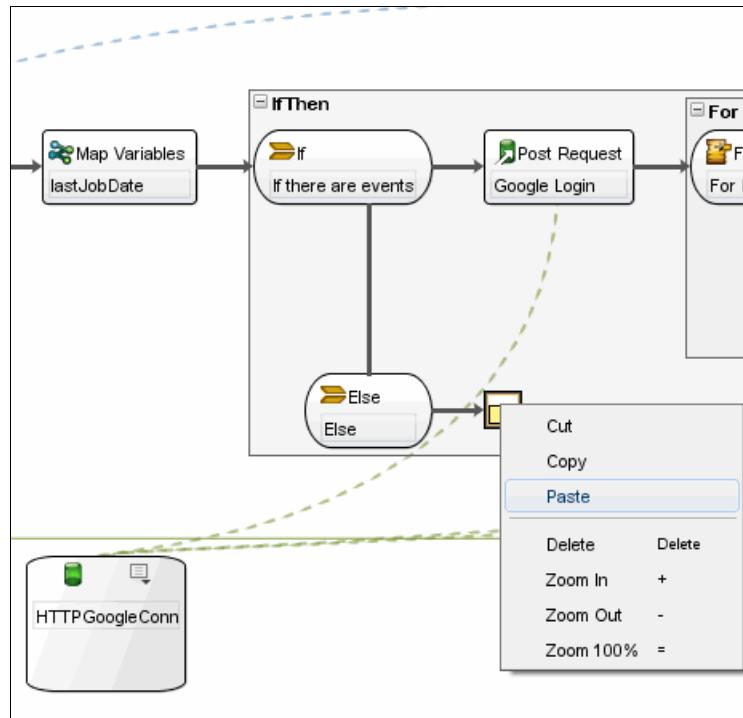

Figure 11-34 Pasting an IfThen activity block
- Paste the block into the orchestration in the Else branch of the first If...Then activity in the orchestration, as shown in Figure 11-34.